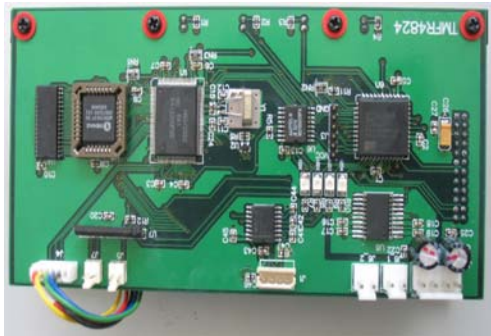
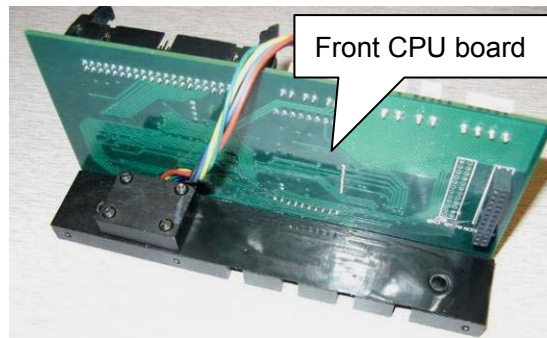

Figure 4-16
Figure 4-17
4. Remove 4 screws fixing the front CPU board as shown in Figure 4-16, and carefully remove the front CPU board as shown in Figure 4-17.